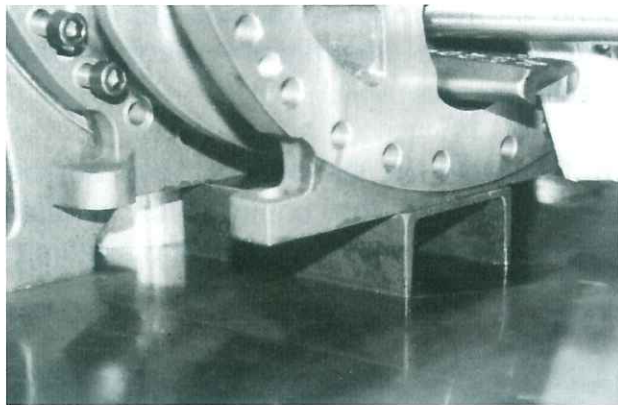

Fig. 95 High-stage Casing Support
3) For the high-stage side, the shaft center may not align properly because the legs of the rotor casing are short. Raise the shaft center with the bottom support used during disassembly (Fig. 95).